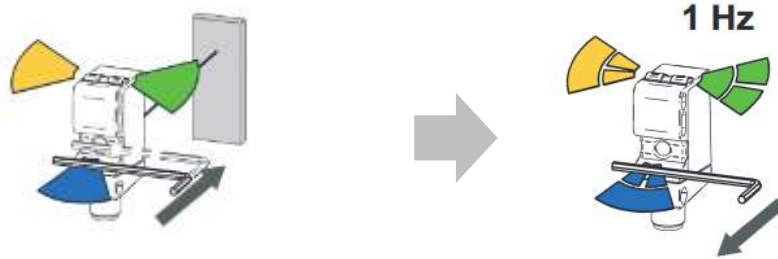

Figure 2
- With the tool, brief touch the qTeach sector and wait until the green and yellow LED flash permanently (see Figure 2). The sensor is now ready for operation.
4. Then brief touch the qTeach sector with the tool until the LED will start flashing. With the tool, brief touch the qTeach sector and wait until the green and yellow LED flash permanently (see Figure 2). The sensor is now ready for operation.